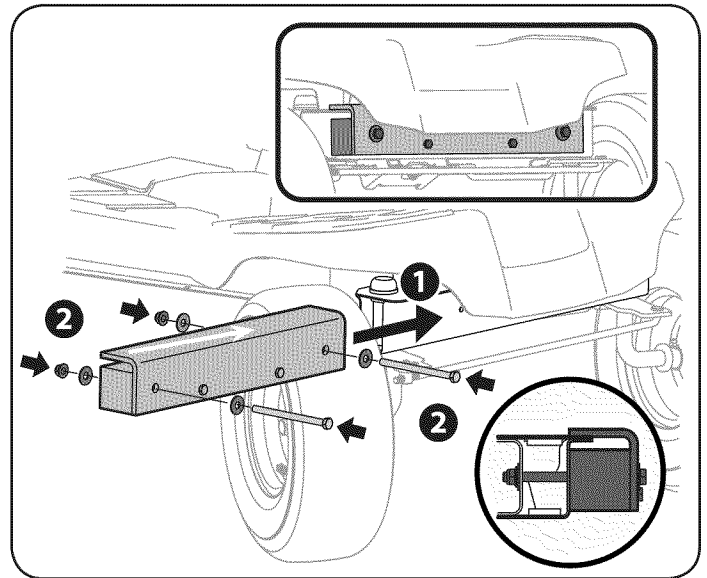

Figure 9
- Turn the wheels of the tractor all the way to the right hand side, from the operator's position, as shown in Fig. 9.